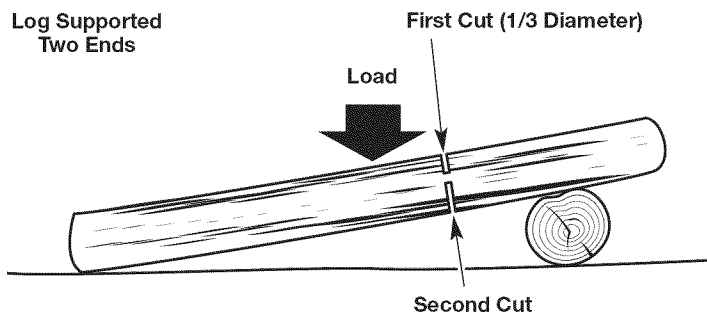

Fig. 18
- If the log is supported on two ends (Fig. 18), make the first cut from above (*overbucking*). Refer to *Overbucking*.